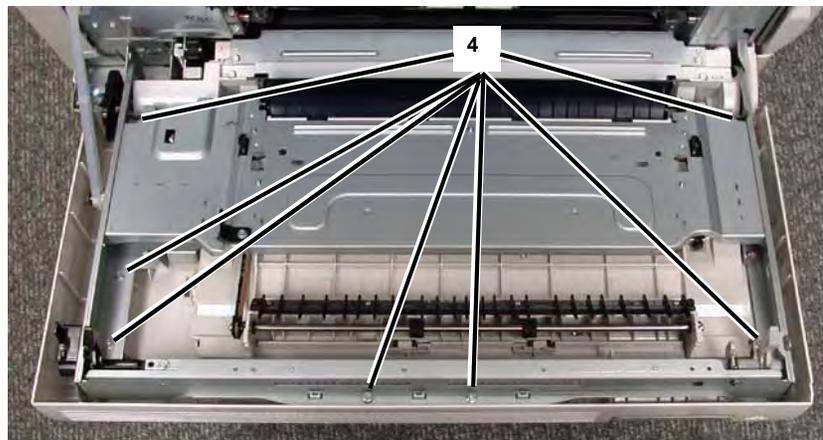

Figure 3 Removing Screws
4. Remove the Left Hand Cover (7 Screws) (Figure 3).